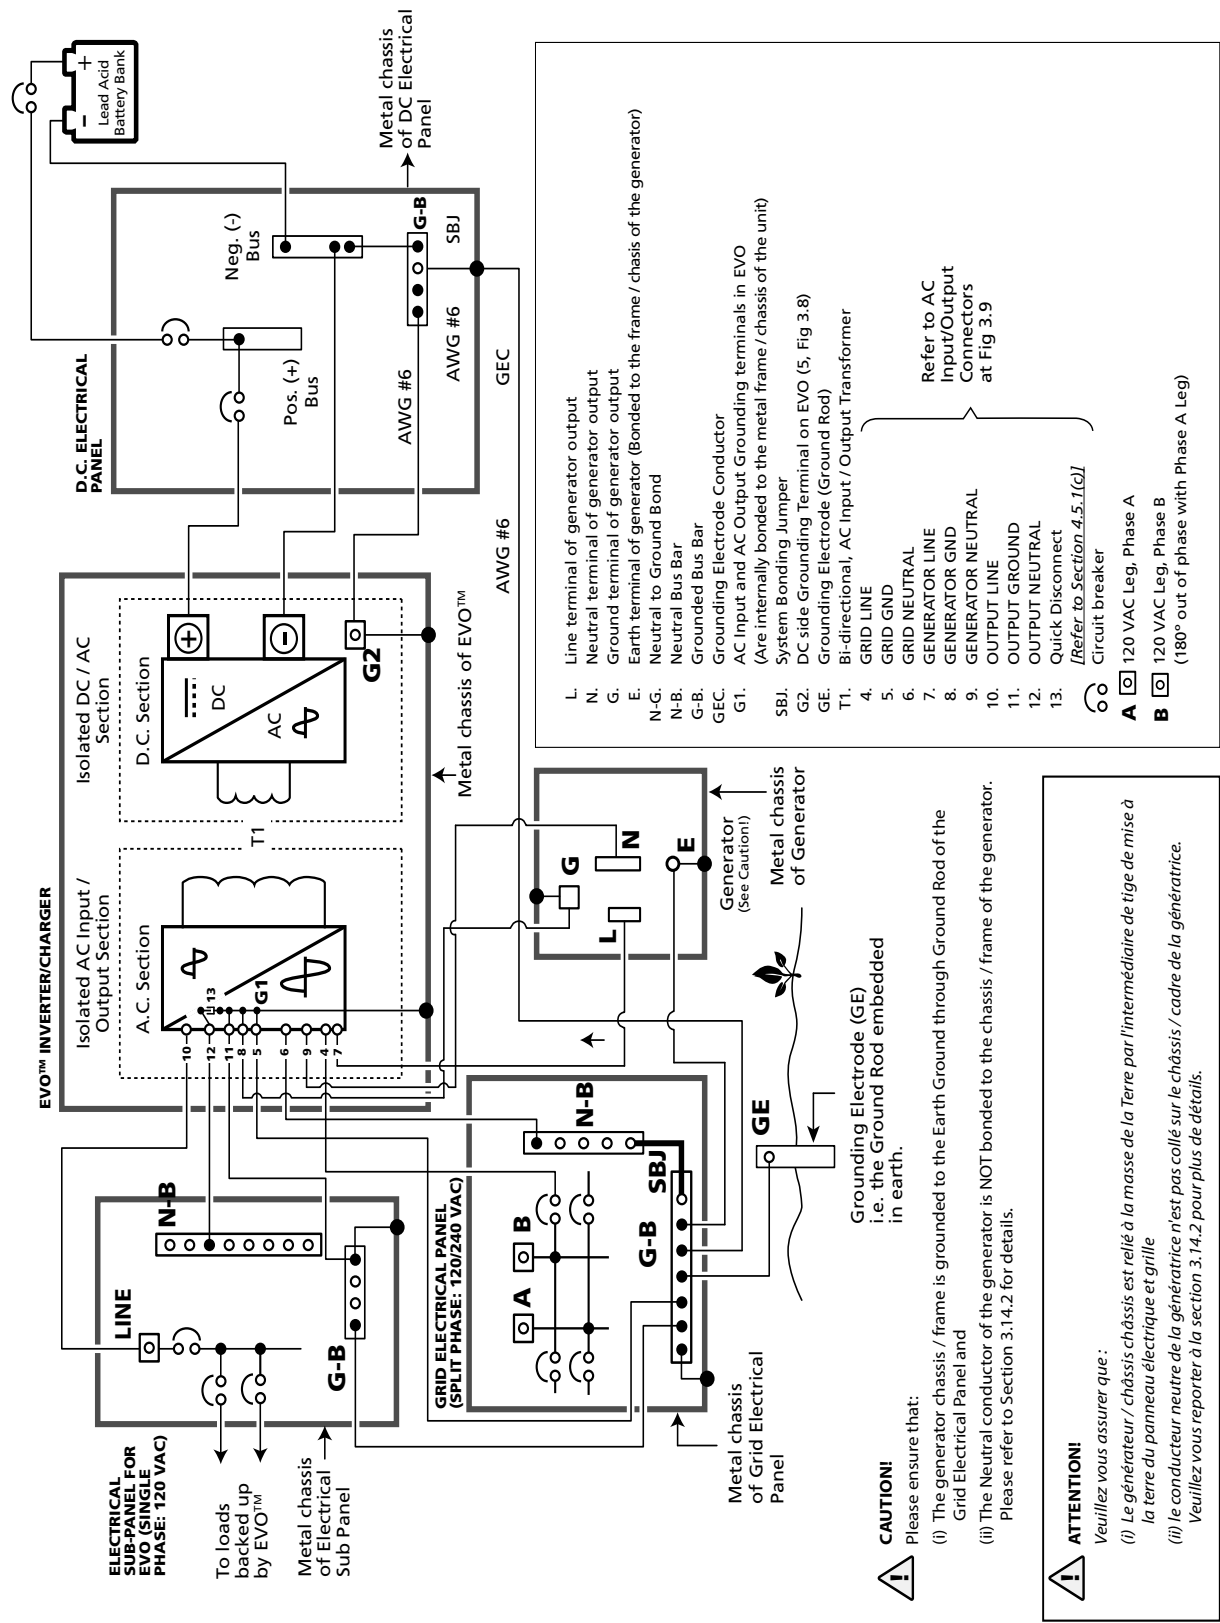

Fig 3.12 Grounding Arrangement for Shore Based Installation - Both Grid and Generator Connected to EVO™
Schematic at Fig. 3.12 illustrates the grounding arrangement of EVO™ Series for shore based Installation.
When using a generator and Grid *simultaneously* as shown in Fig 3.12, please ensure that (i) the Neutral of the generator is NOT bonded to the metal frame of the generator and (ii) the metal frame of the generator is bonded to Earth Ground through the Grounding Electrode (GE) i.e. the Ground Rod.
3.13 DC SIDE GROUNDING (SEE FIG. 3.12)
As described at Section 3.14, the metal frame / chassis of the EVO™ (Fig 3.12, G1) is bonded to the Earth Ground "GE" (Ground Rod) for AC side grounding. It may be argued that if the metal frame / chassis of EVO™ is already bonded to Main Earth Ground "GE" for AC side grounding, why it is necessary to provide additional DC side grounding wiring? (Wiring that bonds DC Grounding Terminals "G2", "G-B" and GE in Fig 3.12). If separate thicker grounding wire of the same size as the battery cable was not provided for the DC side grounding and there was a ground fault in the battery circuit, very large DC fault current from Battery+ would flow through the smaller size AC grounding wires to the Battery Negative through Earth Ground. These smaller size AC side grounding wires would be damaged due to very high DC side fault current (150A to 400A depending on the Model of the EVO™ being used).
A DC Distribution Panel, as shown in Fig. 3.12, is normally provided to connect the batteries and distribute DC power to the inverter and to the other DC loads.
Please refer to Fig 3.12 which shows typical grounding arrangement for shore based installation where both the Grid and Generator are simultaneously connected to the EVO™
As explained at Section 3.14.1 above and shown in Figs 3.12 and 3.14, the Neutral Terminals of Grid Input, Generator Input and AC Output are internally bonded to the metal chassis of the EVO™ and the metal chassis of
When connecting both the generator and Grid simultaneously to the EVO™ for shore based installation (*See Figs 3.12 and 3.14*), please ensure that (i) the generator chassis / frame is grounded to the Earth Ground through Ground Rod of the Grid Electrical Panel and (ii) the Neutral conductor of the generator is **NOT** bonded to the chassis / frame of the generator. If the bond between the Neutral conductor of the generator and it's chassis / frame is not removed, GFCI protected breaker supplying Grid power to the EVO™ will trip due to splitting of some return Neutral current through the path: Common Neutral → Neutral of Generator → Neutral to chassis / frame bond in the Generator → Neutral to Ground bond in Grid Electrical Panel → Neutral of Grid Electrical Panel (current returning through this path will not return through the GFCI protected Grid breaker and the GFCI will trip the breaker).
Lors de la connexion simultanée du générateur et du réseau à l'EVO™ pour une installation à terre (voir les figures 3.12 et 3.14), veuillez vous assurer que (i) le générateur / châssis est relié à la masse de la Terre par l'intermédiaire de tige de mise à la terre de la grille panneau électrique et (ii) le conducteur neutre de la génératrice n'est pas collé sur le châssis / cadre de la génératrice. Si la liaison entre le conducteur neutre de l'alternateur et c'est châssis / trame n'est pas enlevé, protégée GFCI breaker fournissant l'alimentation de la grille de l'EVO™ s voyage en raison d'un fractionnement de revenir par le chemin courant: Neutre commun → Générateur de Point Mort pour châssis / liaison châssis dans le générateur → point mort à la masse du panneau électrique grille → Point Mort du panneau électrique de la grille actuelle (retour par ce chemin ne sera pas de retour à travers la grille de protection GFCI disjoncteur et le disjoncteur se déclenche le disjoncteur).